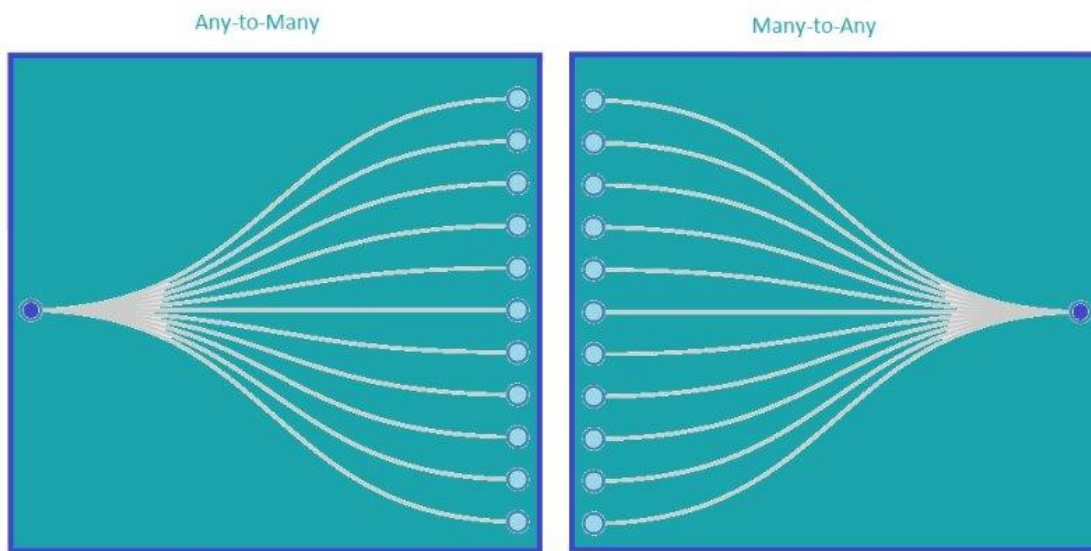

Figure 8: Any-to-Many and Many-to-any forwarding supported by the NPB-II
- Flexible Forwarding Capabilities Many-to-Any, Any-to-Many (see figure 8)